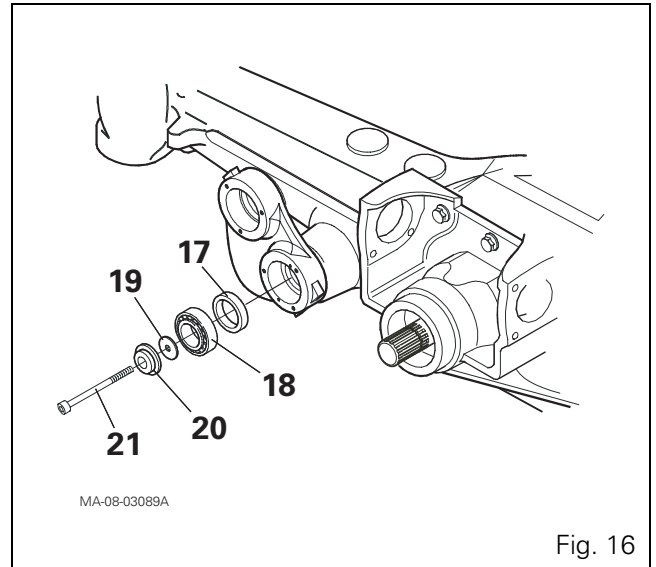

Fig. 16
- 16.** Remove screws (21) on the pinion side and the reference shim R.
Insert shims S between the stop (20) and tapered roller bearing (18) to the thickness calculated in step 15 (Fig. 16).